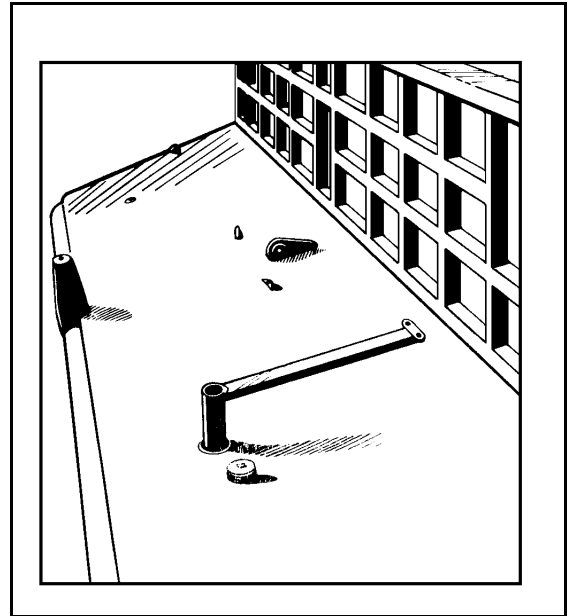

Figure 17-5. Rudder Post
- **Step 3.** The tiller is put through the deck hole and onto the square head of the rudder post (Figure 17-5).